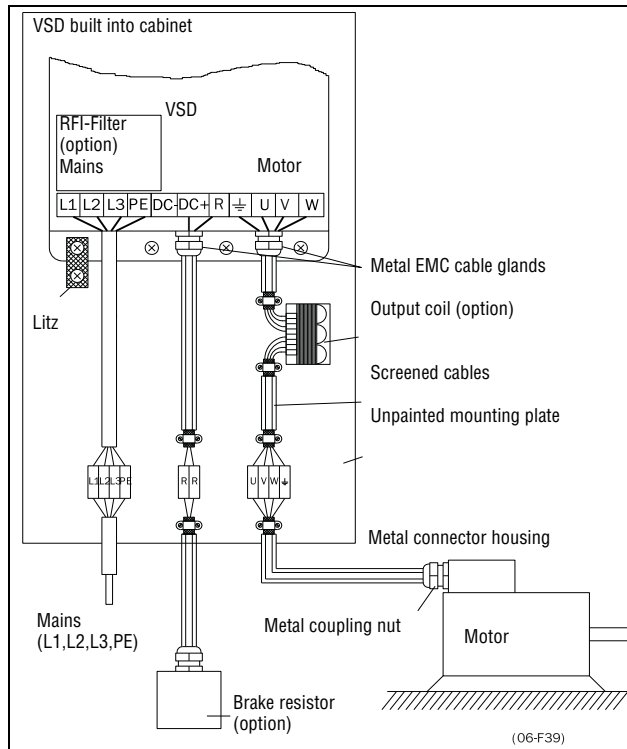

Fig. 15 Variable speed drive in a cabinet on a mounting plate
- The litz ground connection see fig. 15, is only necessary if the mounting plate is painted. All the variable speed drives have an unpainted back side and are therefore suitable for mounting on an unpainted mounting plate.
If the motor cables are to be interrupted by maintenance switches, output coils, etc., it is necessary that the screening is continued by using metal housing, metal mounting plates, etc. as shown in the Fig. 15.
- If the variable speed drive is mounted in a standard cabinet, the internal wiring must comply with the EMC standard. Fig. 15 shows an example of a VSD built into a cabinet.